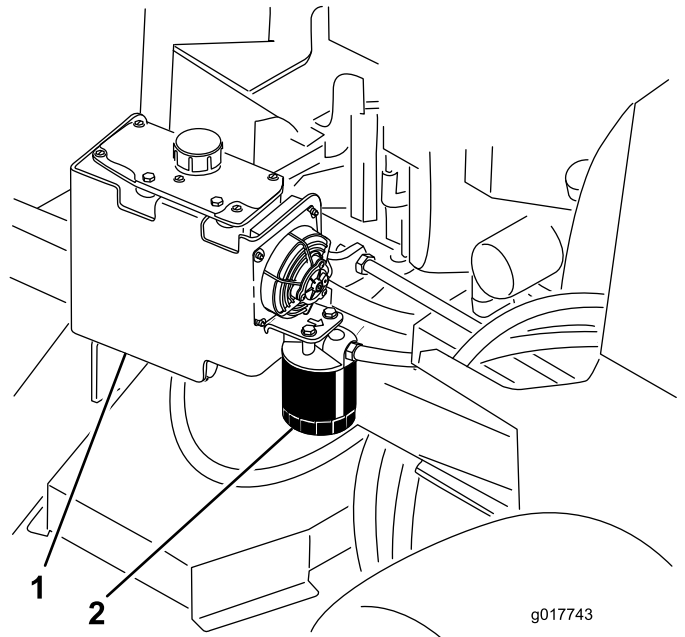

Figure 82
3. Locate the filter and place a drain pan under the filter (Figure 82).